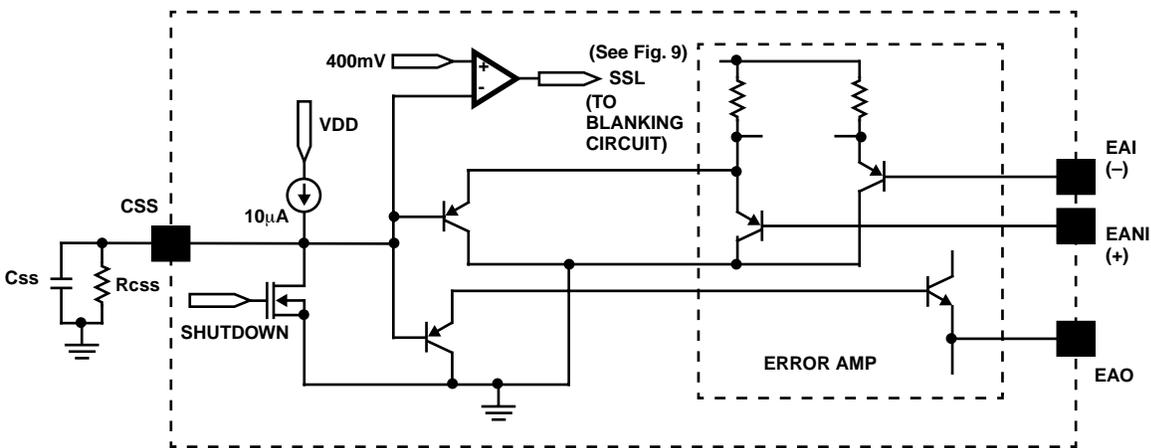

FIGURE 4. SIMPLIFIED CLAMP/SOFTSTART
- Both EANI and EAO are clamped by the voltage (Vclamp) set at the CSS pin, as shown in Figure 4. Note that the diodes in the functional block diagram represent the clamp function of the CSS in a simplified way.
- The clamping voltage determines the cycle-by-cycle peak current limit of the power supply. It should be set above the EANI and EAO voltages and can be programmed by an external resistor as shown in Figure 4 using Equation 3.
- In current mode control, the sensed switch (FET) current is processed in the Ramp Adjust and LEB circuits and then compared to a control signal (EAO voltage). Spikes, due to parasitic elements in the bridge circuit, would falsely trigger the comparator generating the PWM signal. To prevent false triggering, the leading edge of the sensed current signal is blanked out by a period that can be programmed with the R_LEB resistor. Internal switches gate the analog input to the PWM comparator, implementing the blanking function that eliminates response degrading delays which would be caused if filtering of the current feedback was incorporated. The current ramp is blanked out during the resonant delay period because no switching occurs in the lower FETs. The leading edge blanking function will not be activated until the soft start (CSS) reaches over 400mV, as illustrated in Figures 4 and 9. The leading edge blanking (LEB) function can be disabled by tying the R_LEB pin to VDD, i.e., LEB=1. Never leave the pin floating.